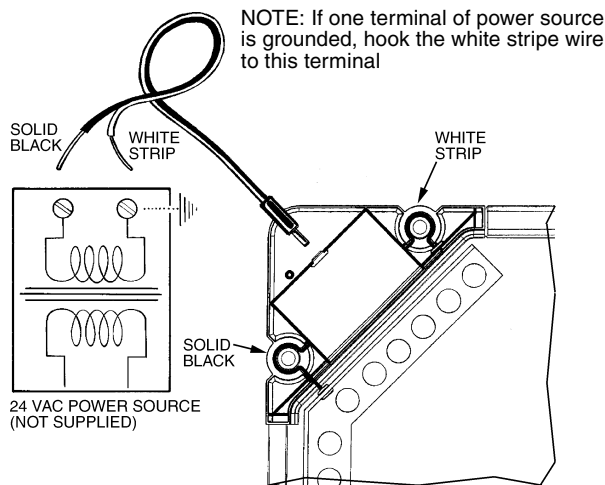

Fig. 2 — Electronic Air Cleaner Wiring
3. Wire the power cord to a 24-V power source. See Fig. 2. Use a voltmeter to positively identify that the power source is a 24-V (maximum 30-V) source. A field-supplied 110-V to 24-V adapter or transformer may be used to provide 24-V power. Ensure that the electronic air cleaner is properly grounded.